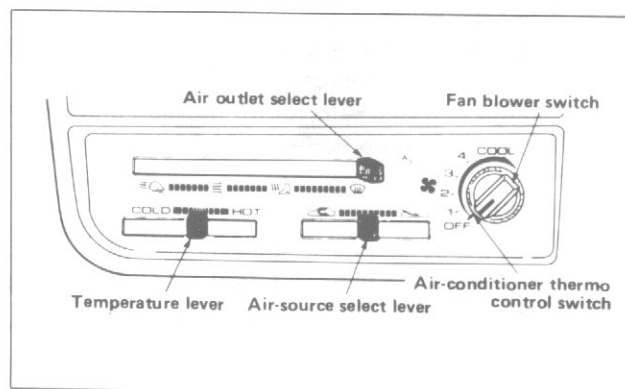

Fig. 2-12
**OPERATION OF CONTROLS (FIG. 2-12)****Heater and Airconditioner (If so equipped)**